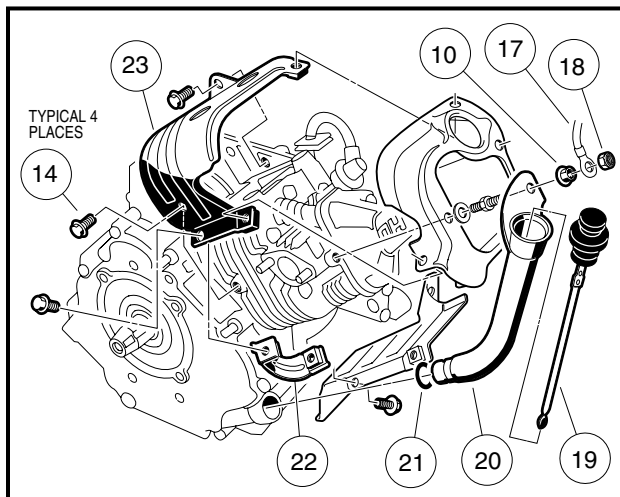
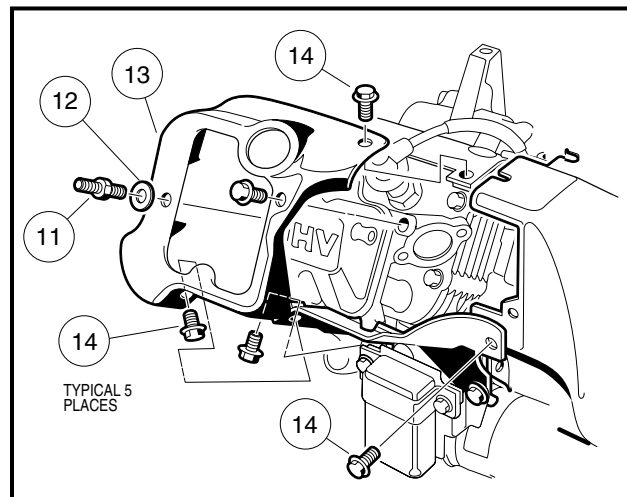

Figure 3-3 Upper Shroud & Oil Fill Tube Removal
Figure 3-4 Head Shroud Removal
6. Disconnect oil filler tube (20) from cylinder shroud by first removing the locknut (18), ground wire (17) and flange nut (10) (**Figure 3-3, Page 3-6**). See following NOTE.
7. Remove the nine bolts (14) and two-ended bolt (11) (**Figure 3-4, Page 3-6**).
8. Take off the head shroud (13) (**Figure 3-4, Page 3-6**), and the upper shroud (23) and the bracket (22) (**Figure 3-3, Page 3-6**).